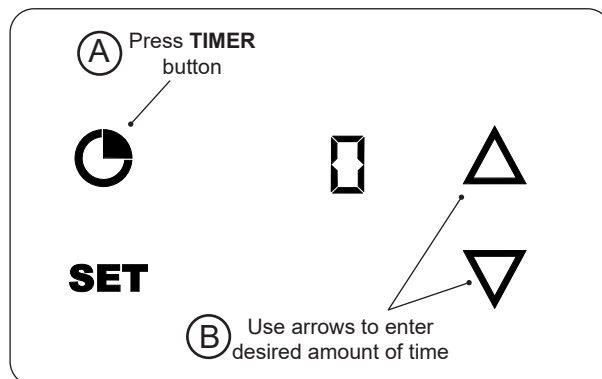

Fig. 41-1 Set timer
1. With the thermometer/thermostat **on**, press the **TIMER** button once (Fig. 41-1, A). A zero will display indicating that no timer is set.
2. Press the **UP** or **DOWN** arrows to enter the desired amount of time or to modify an existing set time (Fig. 41-1, B).